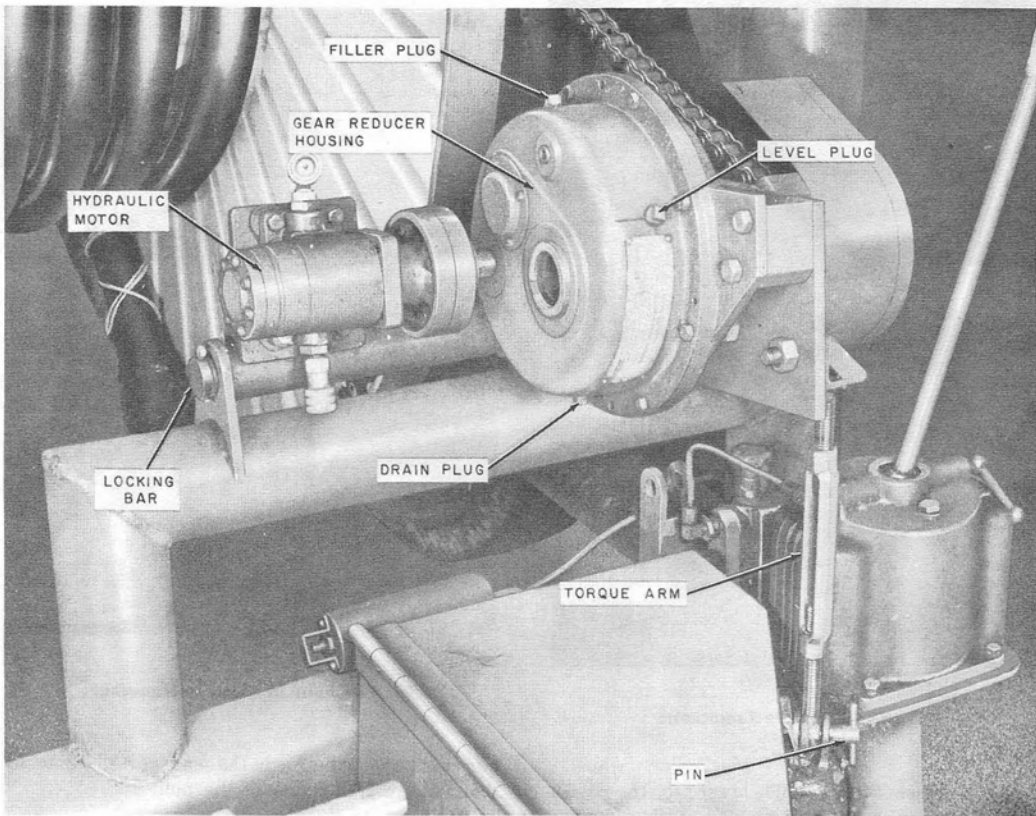

Fig. 5—Cable Take-up Drive Unit
**4.02** Remove the pin from the torque arm (Fig. 5) and tilt the drive unit toward the cable reel to allow the chain to be placed on the drive sprocket under the chain guard. Return the drive unit to its original position and replace the pin. Be sure the sprocket on the drive unit is aligned with the large sprocket on the cable reel. They may be aligned by sliding the reel on the spindle bar. After the reel has been positioned, lock it in place with the two cable reel spacers provided with the Drive Mounting.